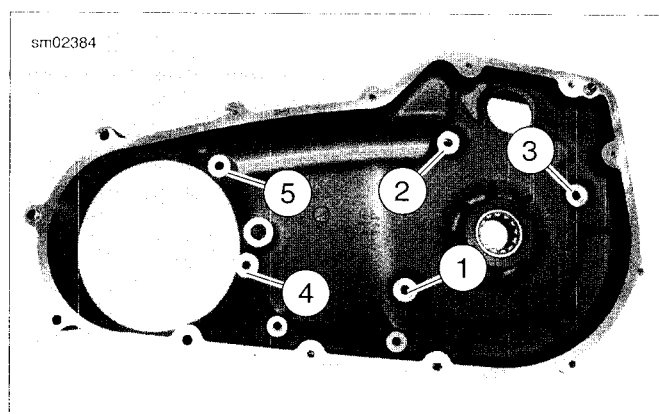

Figure 5-29. Sealing Fastener Torque Sequence
4. See Figure 5-29. Tighten fasteners in sequence shown to 26-28 ft-lbs (35.3-38.0 Nm).